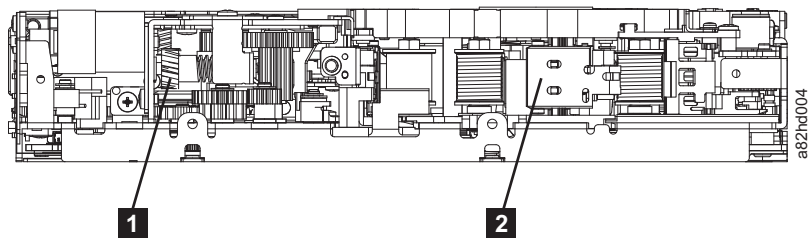

Figure E-13. Leader block assembly (LBA)
- Rotate the loader intermediate gear (**1** in Figure E-13) clockwise as viewed from the front of the drive until it stops. This action releases the LBA leader pin.
- Rotate the threader motor worm gear (**3** in Figure E-13) counterclockwise until the leader block is in front of the read/write head. This action moves the LBA out of the cartridge.
8. Rotate the loader motor worm gear ( **3** in Figure E-13 on page E-13) counterclockwise as viewed from the front of the drive until it stops.